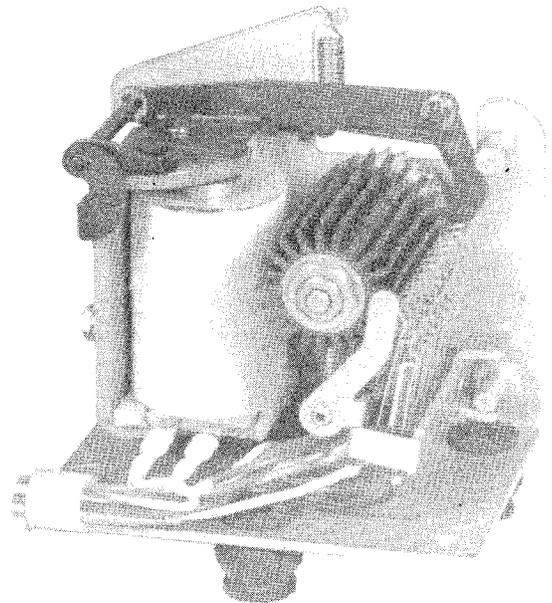

Figure 1 - Answer-Back Unit
1.01 This section provides lubrication procedures for the late design 37 answer-back unit (Figure 1). The late design unit can be recognized by the location of the drum feed mechanism at the end of the code drum. The drum feed mechanism on the early design answer-back unit is located in the middle of the code drum.